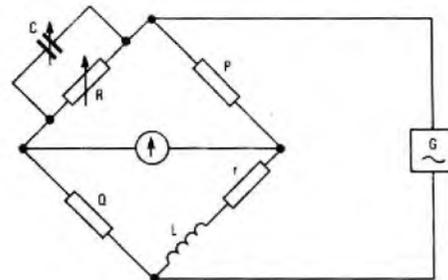

Fig. 2
Q10 (a) The circuit of an inductance bridge is shown in Fig. 2. Derive formulae from which the values of  $L$  and  $r$  can be found. Why must  $R$  be adjustable?
**Method** The circuit is arranged as shown in Fig. 2. Carefully screened connexions must be used throughout and components must be individually screened to avoid any unwanted coupling between them.